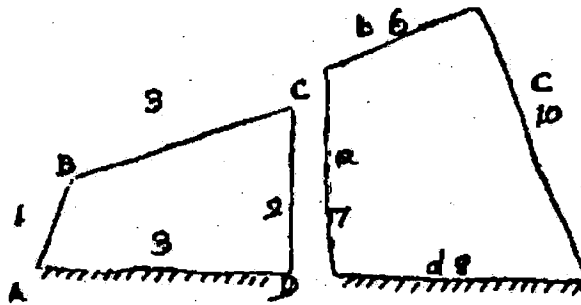

Fig. 2
(b) (i) Find the maximum and minimum transmission angles for the mechanisms shown in fig.2. The figures indicate the dimensions in standard units of length. (8)